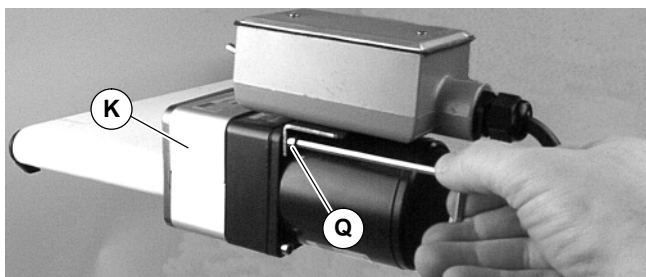

Figure 8
10. Insert top cover (K of Figure 8) into bottom cover. Attach top cover with two (2) top screws (Q). Tighten to 45 in-lb (5 Nm).